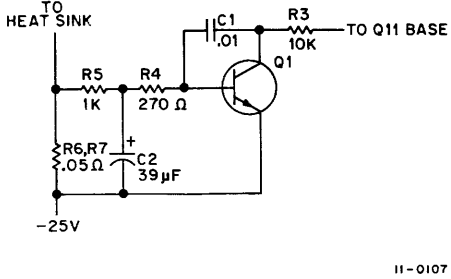

Figure 2-12 -15V Overcurrent Circuit
2.4.2.3 Overcurrent Protection – The overcurrent-sensing circuit (see Figure 2-12) for the -15V regulator monitors the amplitude of the current pulses being drawn by the -15V load and shuts off the series-switching transistor if the current becomes too high. This is accomplished by sensing the voltage drop across resistors R6 and R7. When this drop becomes too high, transistor Q1 is forward-biased and pulls the base of transistor Q11 negative through resistor